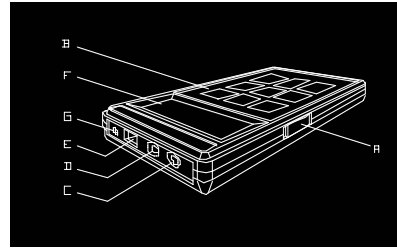

Fig. 1
1. Remove the meter and probe from their case and plug the probe cable into the probe socket on the Smartmeter (E in Fig. 1).
3. Switch on the Smartmeter (A in Fig. 1) and wait until it has read the probe parameters.
4. Check the probe zero with the cap firmly on the detector. If necessary, zero the probe by pressing the ZERO key on the keypad (B in Fig. 1) of the Smartmeter.
3. Insert the calibration cable (included as an accessory) in the meter's probe connector and apply 300.00 mV from a calibrated voltage source between its red (+) and yellow wires. Adjust the calibration adjustment on the Smartmeter (G in Fig. 1) until the displayed A/D count (viewed in AUX mode) is $(-20\ 000 + AD\ OFFSET) \pm 5$. Put a calibration sticker over the adjustment hole.
An RS232 interface cable for connecting the Smartmeter serial port (C in Fig. 1) to a 9-pin PC serial port is supplied as an accessory. The RS232 communications parameters are listed in the specifications section of this manual.